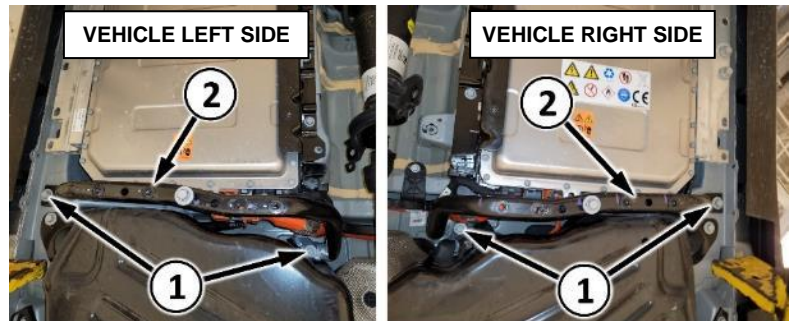

Figure 48– HV Battery Skid Plate Braces
32. Loosen the bolts securing the skid plate braces (Figure 48).
33. Remove the braces from the vehicle (Figure 48).
43. Using Table, Bishamon Lift BX50-CHR or a suitable lift, remove the fasteners securing the HV battery to the vehicle and remove the secondary battery from the vehicle (Figure 48).
58. Install the skid plate braces. Tighten the bolts to 55 N·m (40 Ft. Lbs.) (Figure 48).